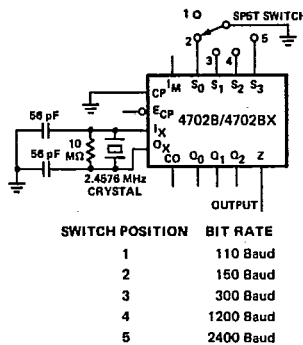

Fig. 1
**Single Channel Bit Rate Generator** — Figure 1 shows the simplest application of the 4702B/4702BX. This circuit generates one of five possible bit rates as determined by the setting of a single pole, 5-position switch. The bit rate output (Z) drives one standard TTL load or four low power Schottky loads over the full temperature range. The possible output frequencies correspond to 110, 150, 300, 1200, and 2400 Baud. For many low cost terminals these five bit rates are adequate.